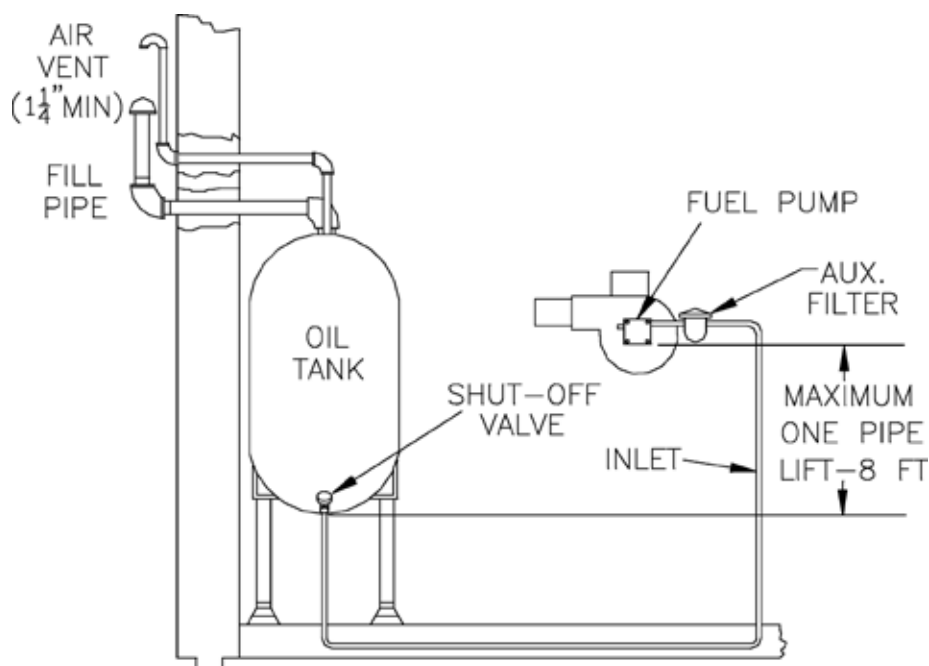

Figure 16: Single-Pipe Installation
2. The single-stage fuel unit may be installed single-pipe with gravity feed or lift. Maximum allowable lift is 8 feet. See Figure 16.